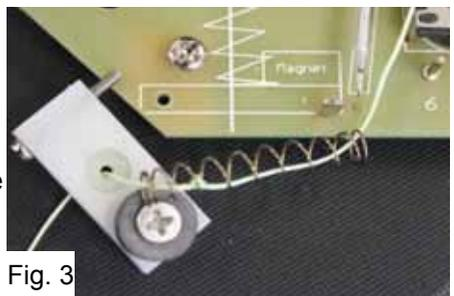

Fig. 3
2. Thread the new cord through the white armature from the underside and then up through the spring (fig.3).